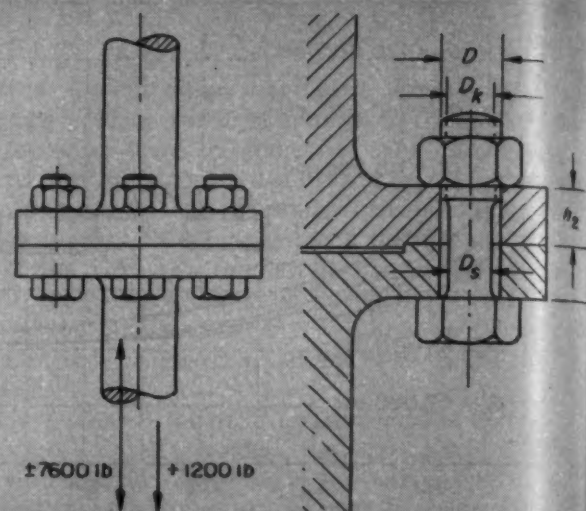

Fig. 9 — Typical assembly loaded with steady and alternating forces
**Flange Joint Example:** As a demonstration of the suggested method, determine the safety factor for the flange connection shown in Fig. 9. The joint is loaded with a steady load,  $W = 1200$  pounds, and with an alternating load,  $Q = \pm 7600$  pounds. Number of bolts in the joint is four. Flange thickness is,  $h_1 = h_2 = 0.8$ -inch. The bolts have UNC threads. Basic major diameter  $D = 1$  inch; minor diameter of the screw thread  $D_K = 0.846$ -inch; root area of thread  $A_K = 0.562$ -square inch; shank diameter  $D_s = 0.8$ -inch; shank cross-section area,  $A_s = 0.5027$ -square inch.